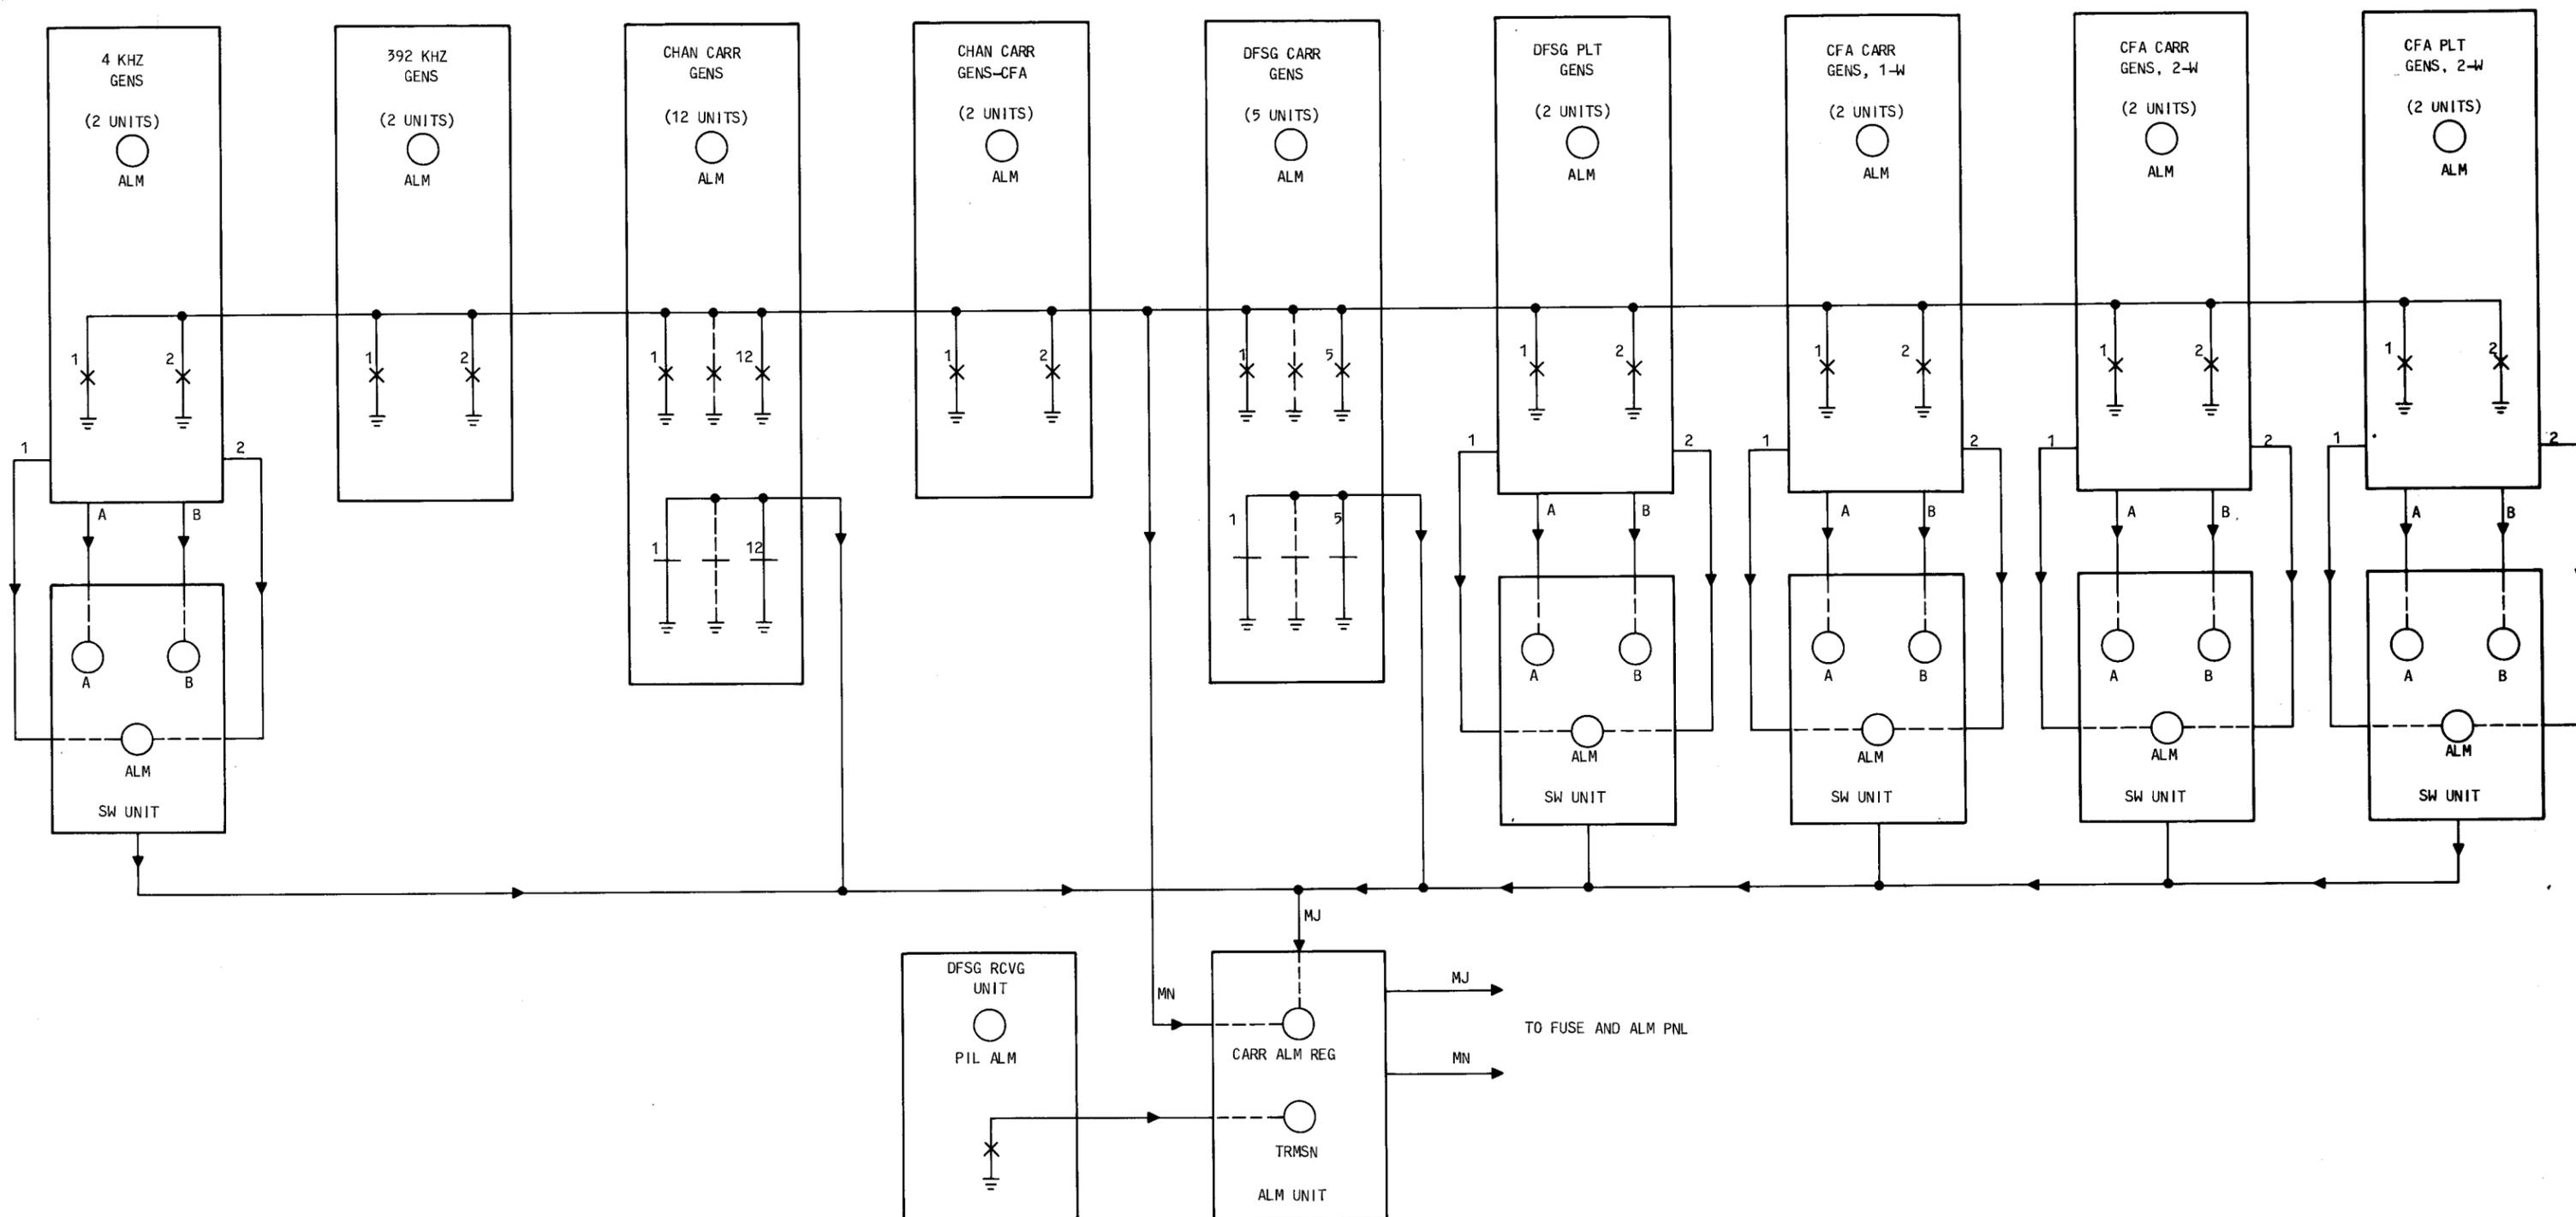

Fig. 15—DFSG Bank Carrier/Pilot Supply Alarm Circuit—Block Diagram
3.02 The basic alarm circuit for the DFSG-bank carrier/pilot supply is illustrated in Fig. 15. Failure of any one of the 31 generators causes an alarm (ALM) lamp on the failed unit to light, an ALM REG lamp on the alarm unit to light, and a minor alarm indication to be sent (via relay contacts or an optical transfer unit) to the bay and office alarm circuits. An alarm cutoff (MN ACO) switch on the alarm unit can be operated to silence the office audible alarms and light a MN ACO lamp on the alarm unit. In the event **both** generators of a mutually protected pair of generators fail (except the 392-kHz generators), an ALM lamp on the associated switch unit lights, the ALM REG lamp on the alarm unit lights, and the switch unit sends a major alarm indication (via an optical transfer unit) to the bay and office alarm circuits. A MJ ACO key and lamp are provided on the alarm unit.